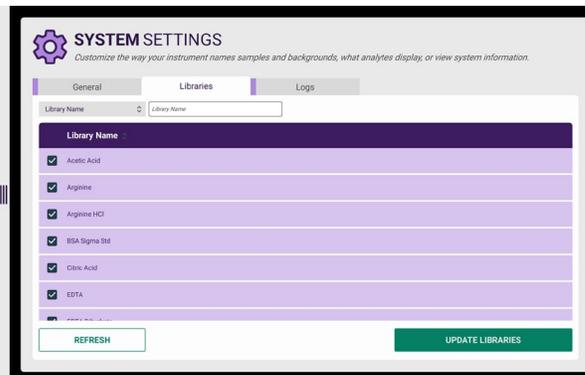

Figure 25. Analyte management to view or hide analytes available in Analyze mode
20. Under the “Libraries” tab, select which analytes are actively visible in the Library available in Analyze mode (Fig. 25). To filter by analyte, type in the “Library Name” field (this refers to the analyte name).